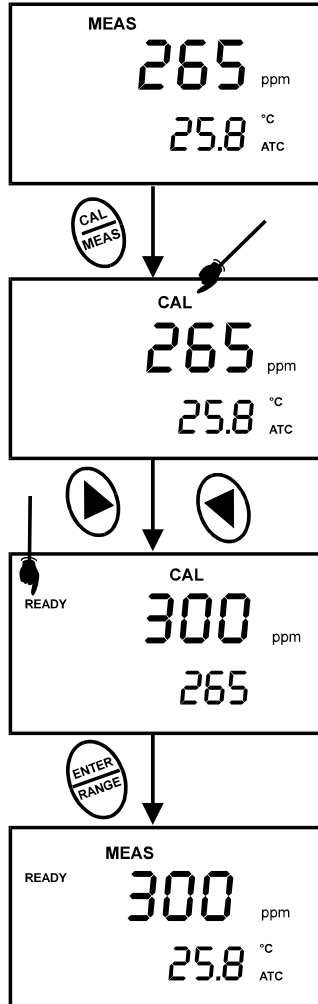

Figure 10 - TDS Calibration
6. Press **ENTER** to confirm the calibration value. The meter returns to the MEAS (measurement) mode. See Figure 10.